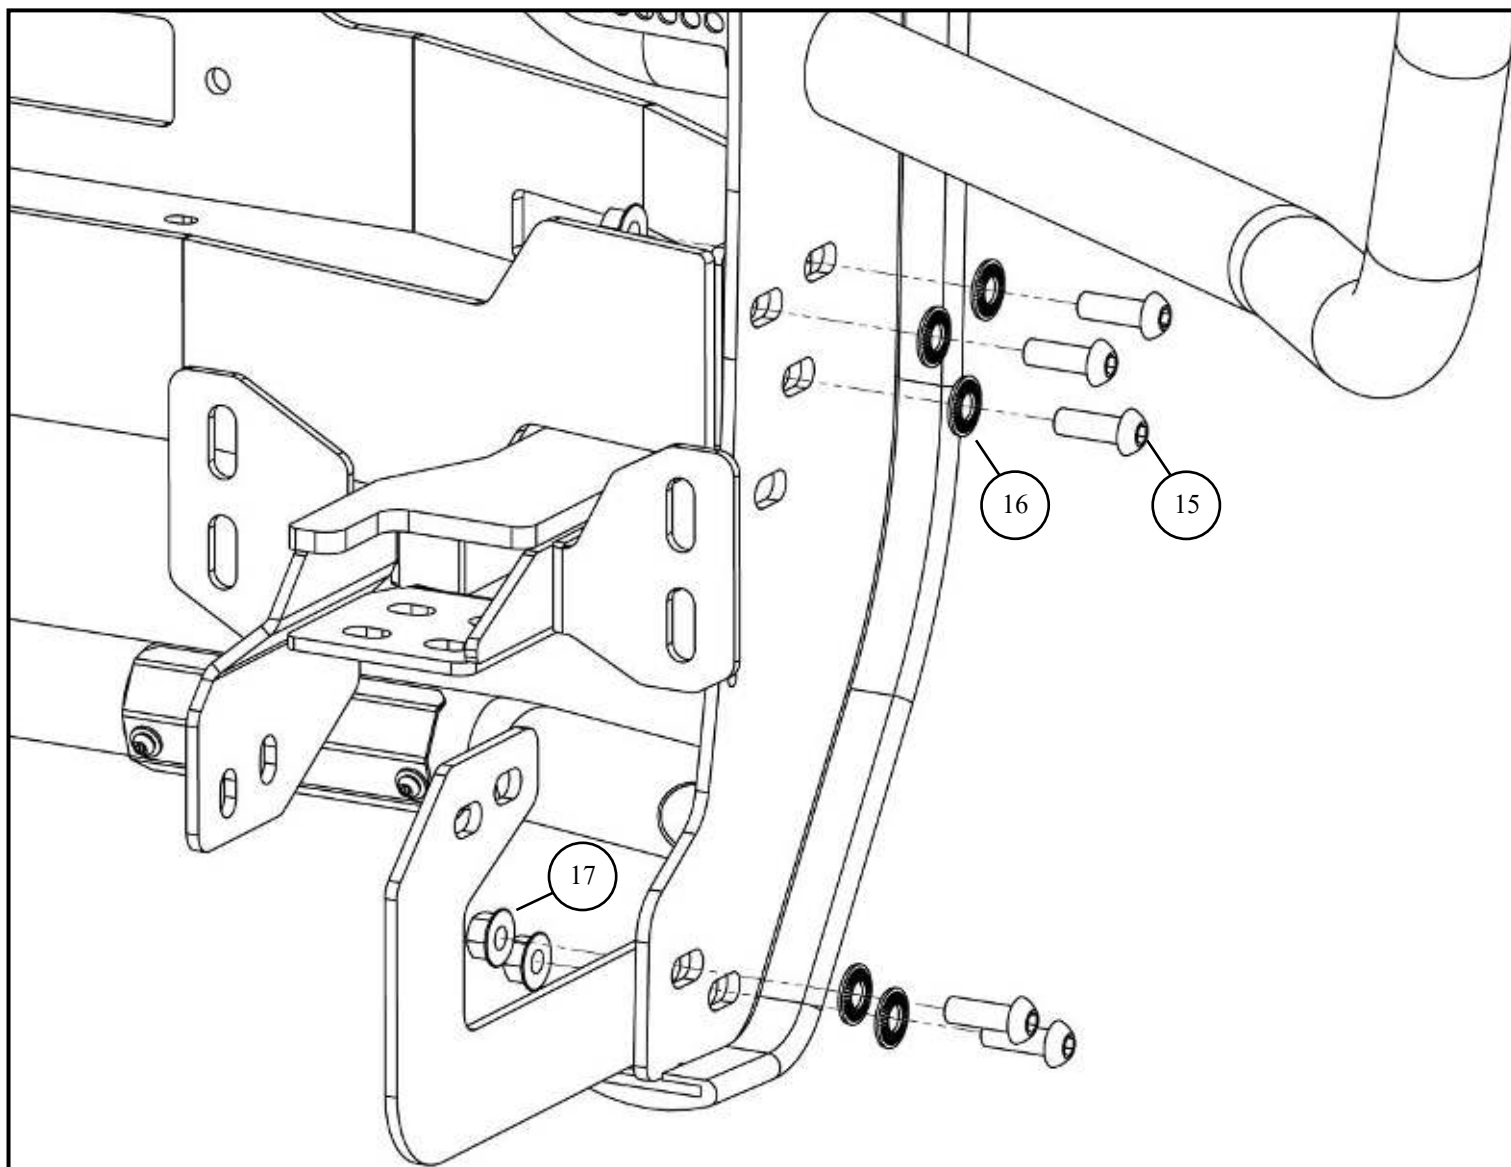

Figure 15
28. Loosely install the grille guard assembly (**item 1**) onto the winch tray and brackets using the black M12 hardware (**items 15-17**). See **Figure 15**.
33. Use the zip ties (**item 18**) to hold the sensor harness extenders in place.